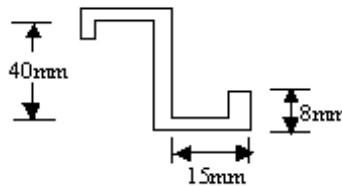

Figure 1b
- (b) Calculate crippling stress for the given extrusion section. Assume  $E=75$  GPa, Thickness of web is 1.5mm and thickness of flanges is 2mm. Shown in figure 1b. [6+10]